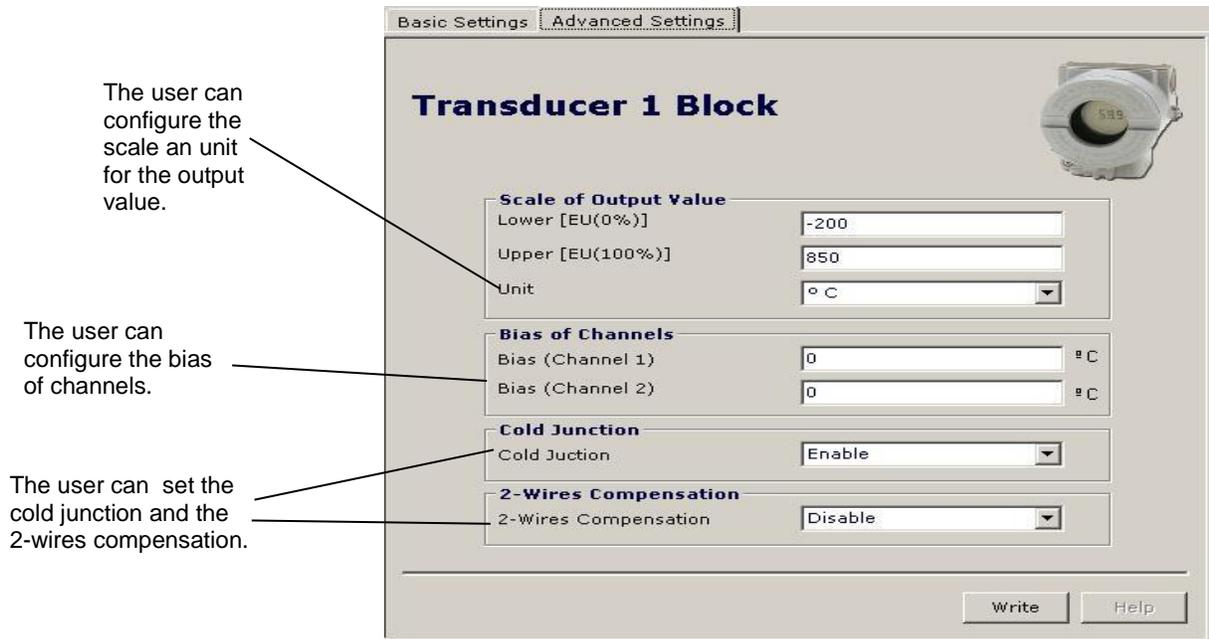

Figure 3.6 – Profibus View - Transducer Advanced Settings
Repeat the same procedure for the second transducer, keeping the short circuit between 1 and 3 terminals, but making a short circuit between 2 and 4 terminals. Please see figure 3.6 e 3.7.
**TT303** allows the compensation of cold junction when the user select "Enable" according to the Figure 3.6 e 3.7.